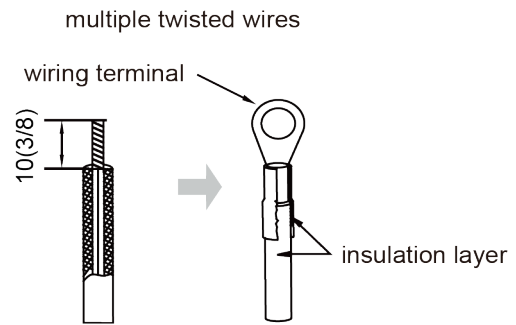

Fig.14
- (2) The connection of stranded wire (as shown in fig.14).